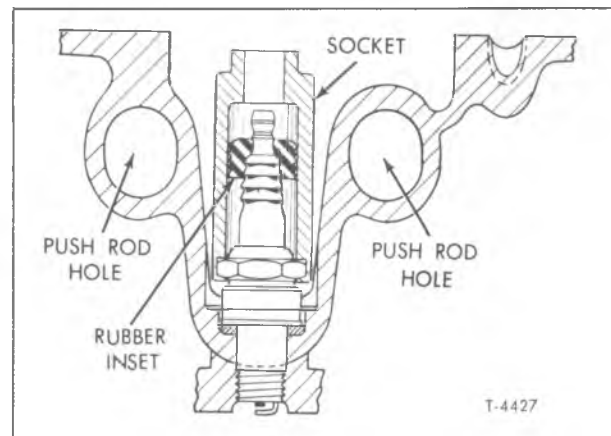

Figure 10—Wrench Socket Installed on Plug
2. Use special spark plug wrench socket No. S-9704B (manufactured by Snap-On Tool Co.) (fig. 10), and unscrew plugs from cylinder head. Ordinary wrenches may damage porcelain. If gaskets do not remain on plugs, remove from cylinder head.
Install spark plugs in the engine with new gaskets and tighten finger-tight. Using special spark plug wrench socket (S-9704B) as shown in figure 10, and a torque wrench, tighten plugs to 30-34 foot-pounds torque.